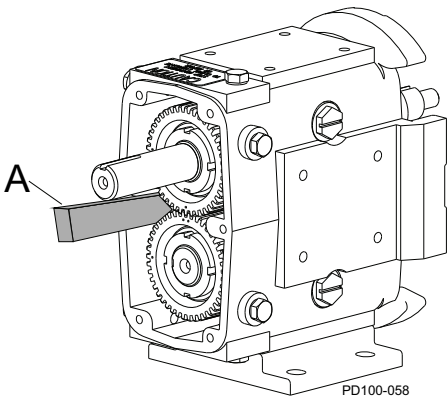

Figure 269 - Block Shaft Rotation
2. Prevent the shafts from turning by placing a wedge or soft dowel between the gears (Figure 269, item A). Use a gear nut driver tool (see below) to remove the gear locknut. The gears will be removed later.